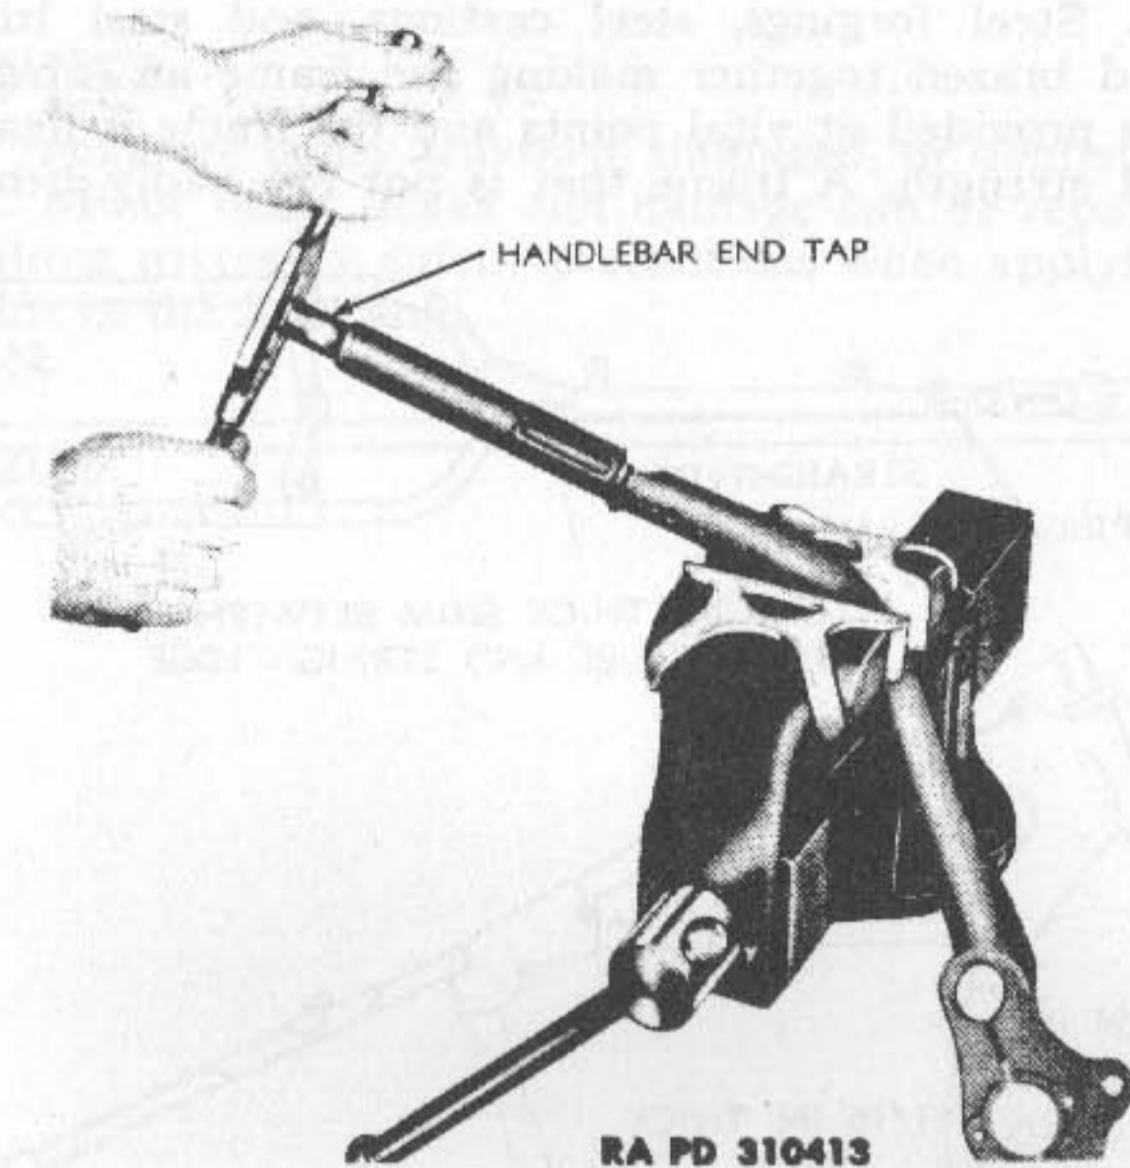

Figure 132—Tapping Handlebar End with Tap (41-T-1026)
a. Badly bent or broken handlebars must be replaced to ensure highest safety factor in service. The control components can be replaced. Damaged threads in ends of handlebar can be cleaned up with tap as shown in figure 132.